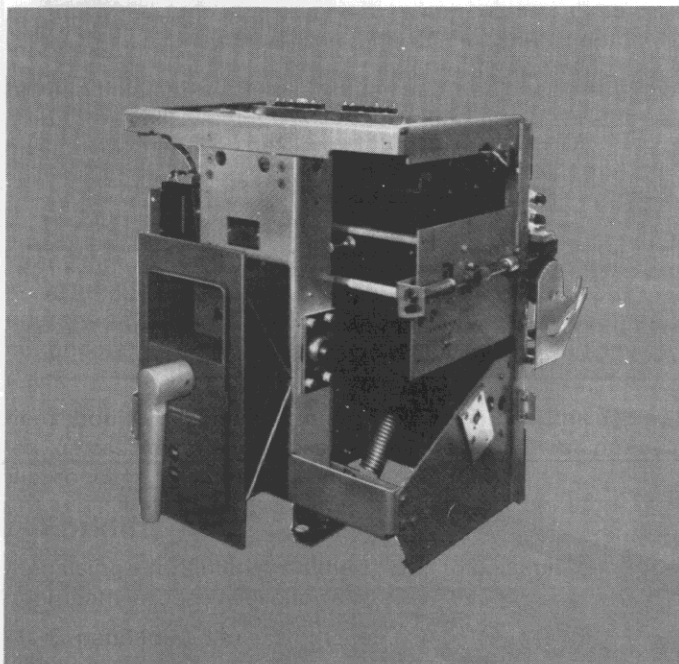

Fig. 3-16. AKR-75 circuit breaker (manually operated)
F. AKR-6D-75 Circuit Breaker (Fig. 3-16)